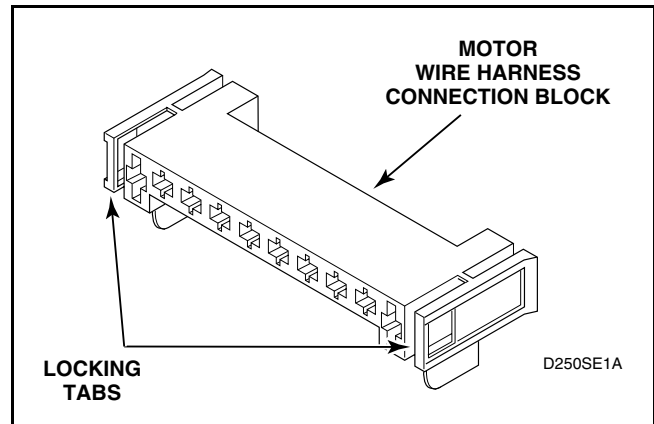

Figure 23
- Disengage motor wire harness terminal block from motor switch by pressing in on the movable locking tabs (located on each end of the terminal block) and pulling away from motor. Refer to *Figures 23* and *24*.
- (1) Disengage motor wire harness terminal block from the motor by pressing in on the movable locking tabs (located on each side of the terminal block) and pulling away from motor. Refer to *Figures 23* and *24*.